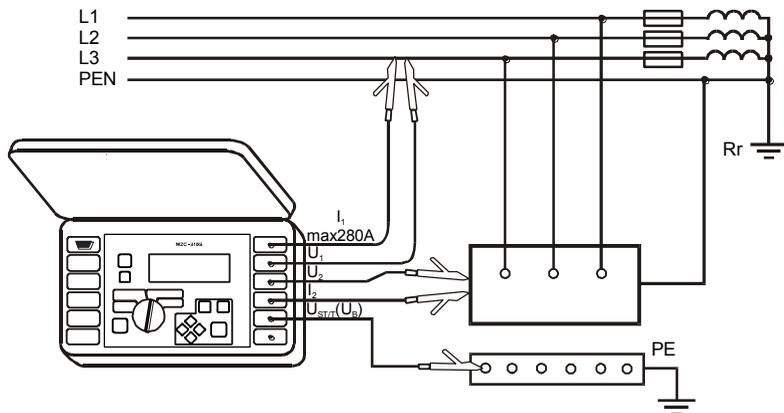
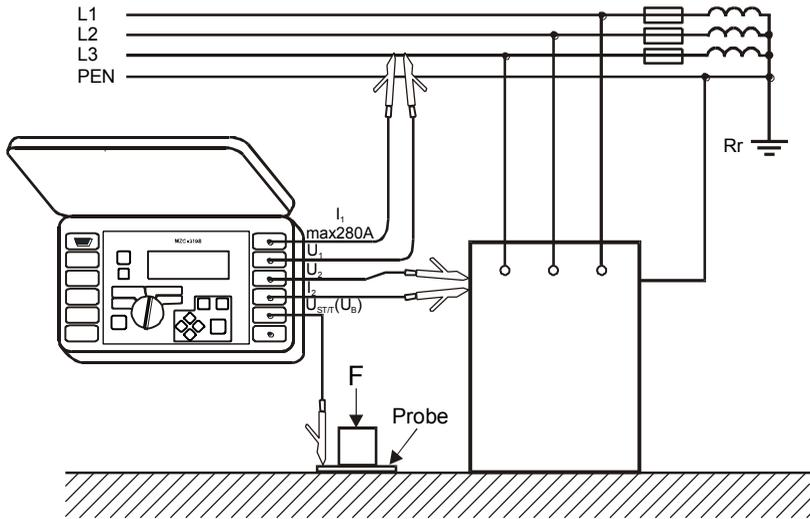

Fig.18. Measurement of touch voltage U_{ST}
Fig.19. Measurement of shock voltage U_T
In the short-circuit loop parameters measurement (2p or 4p) mode, the instrument constantly monitors the network voltage and frequency in the way described in section 7.6. Their values are displayed at the bottom of the screen. Index attached to the voltage U symbol informs the user whether the phase voltage - U_{LN} , or the inter-phase voltage - U_{LL} is measured, or whether the voltage value exceeds the ranges shown in Fig.19. - U_{Σ} . The same rules to determine the voltage type apply to the voltage measured while measuring the short-circuit loop impedance.
- Connect test leads as in Fig.18 for U_{ST} or as in Fig. 19 for U_T .
The measurement of touch shock voltage U_T is performed after introducing an additional resistor (inside the device) of $1k\Omega$ between the terminals U_2 and U_{STT} (U_B).The resistor simulates resistance of the human body, while the terminal U_{STT} (U_B) is to be connected to the probe that simulates human feet located on the ground (Fig.19), whose properties and load are described by relevant standards.